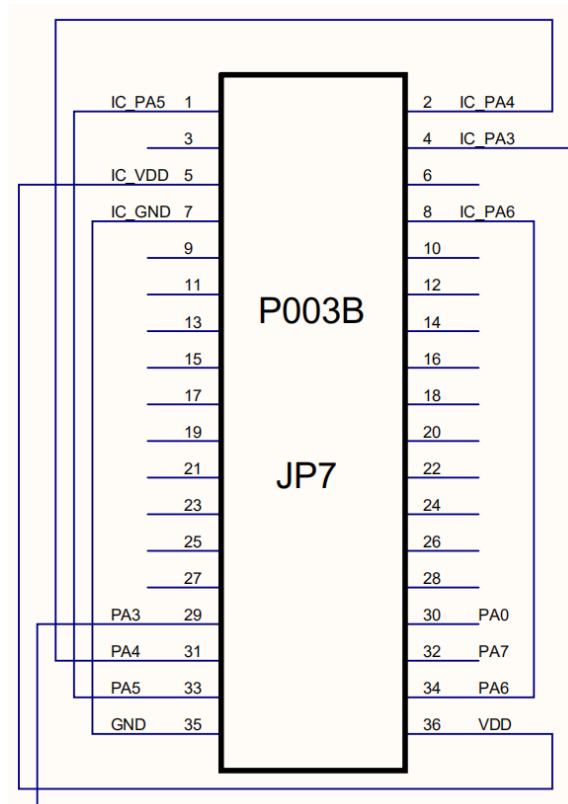

Fig. 29: schematic diagram of PMS160-S08B Jumper7 when using P003B
2. As shown in figure 29, it is the Jumper7 connection method.